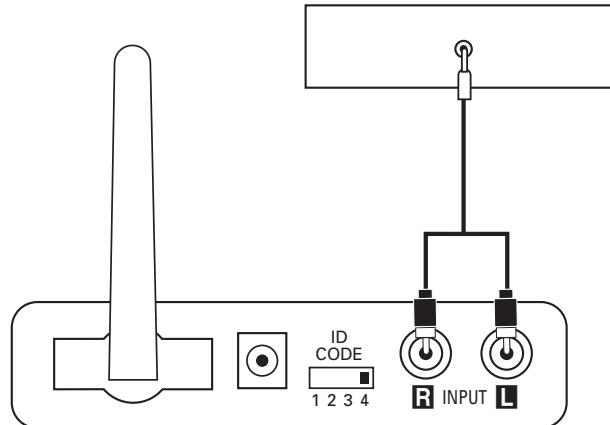

Figure 5.
Step 1. Connect the RCA – mini-jack cable (included) to the preamp out, line out or headphone 3.5mm (1/8-inch) output of your portable audio player and the inputs on the transmitter module **⑭**, as shown in Figure 5.